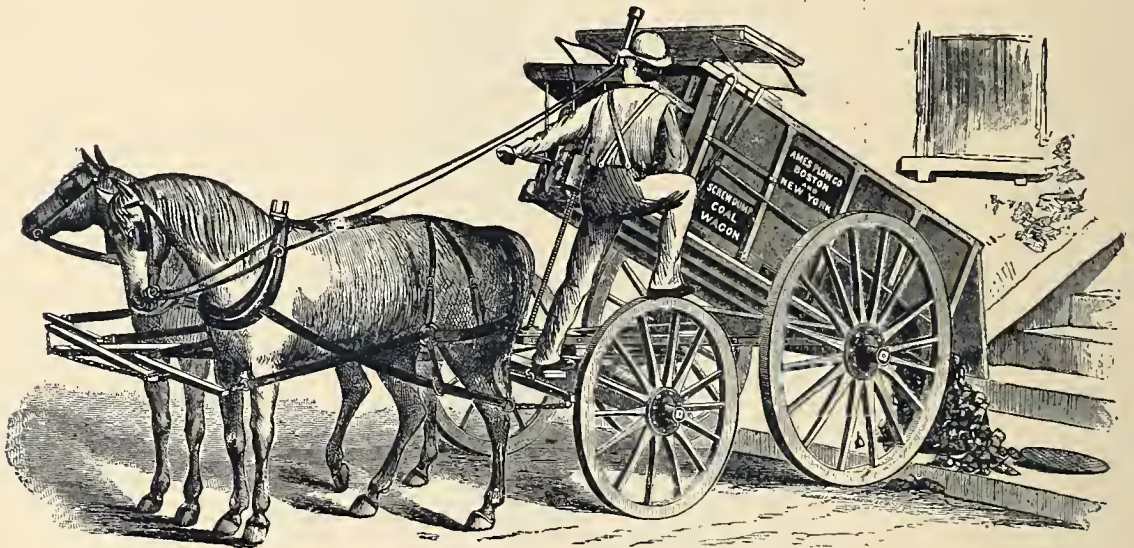

Fig. B 574.—Patent Screw-Dump Coal Wagon.
*The Patent Screw-Dump Coal Wagon.*—This is represented by *Fig. B 574*. They are made for one, two, or more horses. The one-horse wagon is ordinarily made to hold one to one and a half ton, and the two-horse from two to five tons. As demonstrated in the illustration the *screw* furnishes a very easy way of dumping a heavy load. The lever at side of wagon can be worked to throw open the end door at proper time. There is also a small slide in the end so that coal can be run out through it into baskets, or a chute. Many dealers have all their wagons rigged with this dumping arrangement. We furnish the dumping device alone when so desired.